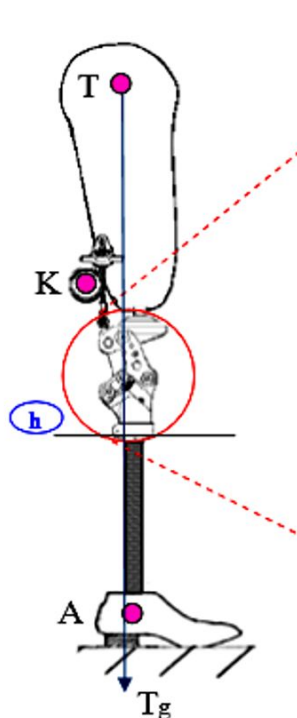
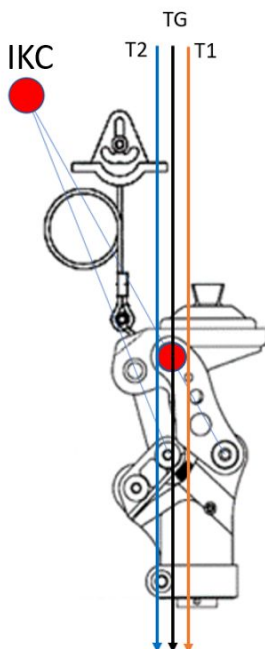

Fig. 2
Fig. 3
Note: 4-bar knees inherently are very stable due to the geometry built into each design. This is commonly referred to as the Instant Knee Center (IKC). The IKC point when doing bench alignment, will fall behind the traditional TKA line that we will reference. (Fig. 2,3) Tg line in Fig. 3 is ideal placement, but in certain instances, it may be necessary to accommodate placement anteriorly (into the T1 zone up to 2mm), or posteriorly (into the T2 zone up to 2mm). The Tg line is referencing a moving weight bearing line, so it could be in T1, neutral, or in T2 zones.
a) With prosthesis assembled, taking into account hip flexion contractures, abduction, Line Of Progression, and toe out (Fig.2), the TKA plumb line should pass through the knee center (at the proximal/anterior pivot – red dot pivot Fig.3) and in front of the K point (IKC). Take into account shoe heel height, and add 3mm safety factor.
d) The weight line for Sagittal or A/P plane should have the plumb line passing through T (Tg) line. Ideally, Tg line should pass through the knee center (red colored pivot) and be perpendicular to the ground. (Fig. 3)
e) **When to use ZONE 1 option** - For the higher weight spectrum patients, Tg line should pass slightly into the “Zone I” area (up to 2mm), which is indicated as up to “T1” (Fig. 3) so that it will reduce stance flexion moment forces of the 5th bar. It is recommended to have controlled stance flexion action of the 5th bar, and not to lock it out or have excessively long duration of it. Excessive stance flexion moment and/or duration can be adjusted through tightening the “Flexion Control Adjusting Screw” in, and/or adjusting alignment (of socket and/or foot) into the T1 zone (up to 2mm). The goal is to have smooth transition from stance flexion to neutral mid-stance motion, and not excessive stance flexion duration.
f) **When to use ZONE 2 option** - For the lighter weight spectrum patients, such as women and children, Tg line should pass slightly into the “Zone II” area (up to 2mm), which is indicated as up to “T2” (Fig.3) so that it will increase stance flexion moment forces of the 5th bar linkage. It is recommended to have controlled stance flexion action of the 5th bar, and not excessively short duration, or abrupt motion of it. Excessive short stance flexion moment and/or duration can be adjusted through loosening the “Flexion Control Adjusting Screw” out, and/or adjusting alignment (of socket and/or foot) into the T2 zone (up to 2mm). The goal is to have smooth transition from stance flexion to neutral mid-stance motion, and not abrupt motion or excessively short stance flexion duration.
It is highly recommended that Tg line should ONLY pass through the “Red Dot”. (Fig. 3)